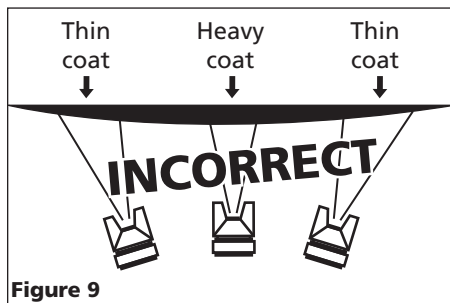

Figure 9
2. Keep the nozzle about 6 to 9 inches from the work surface throughout the stroke and always keep the gun in motion while spraying. Stopping gun movement in mid-stroke will cause a build up of paint and result in runs. Do not fan the gun from side to side while painting. This will cause a build-up of paint in the center of the stroke and an insufficient coating at each end (See Figure 9).